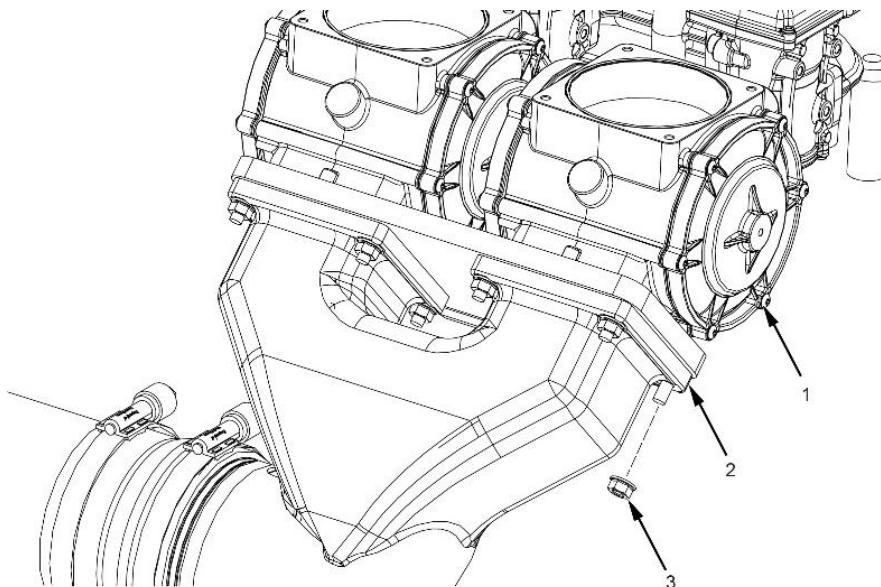

Figure 27. Dual Mixer Bracket Assembly
3. Remove eight nuts (Figure 27, Item 3) from mixer outlet pipe (Figure 27, Item 2) and fuel mixers (Figure 27, Item 1).
8. Install mixer intake pipe (Figure 27, Item 2) to fuel mixers (Figure 27, Item 1) with eight nuts (Figure 27, Item 3).